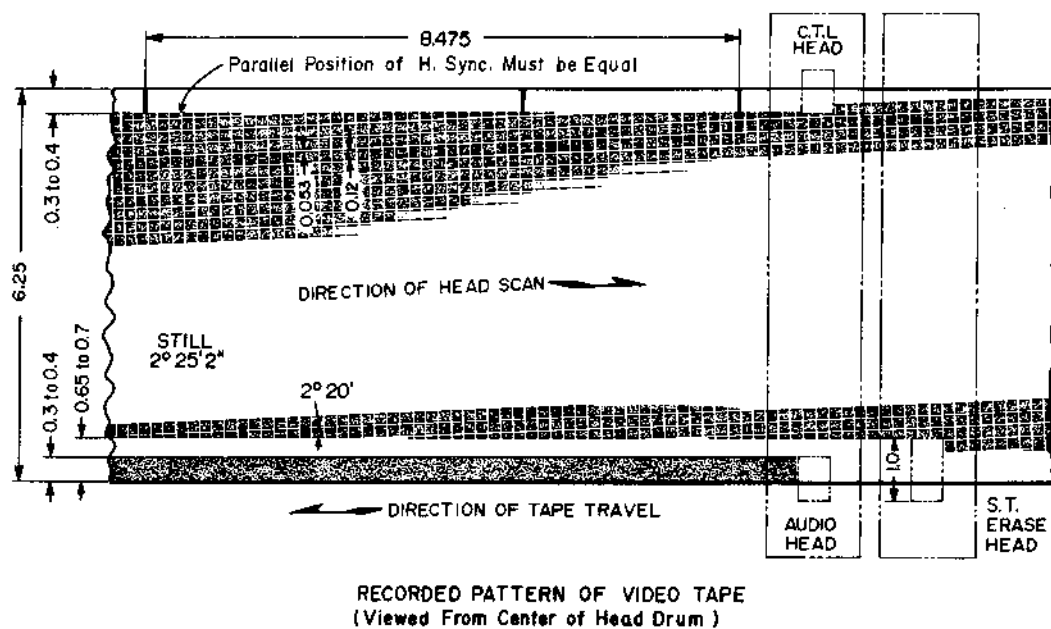

Fig. 1-22
- e) For side track erase head and CTL and audio head height adjustment, adjust the respective head holding screws (screws C,D,E, and F,G,H) and set to obtain pattern shown in Fig. 1-22.